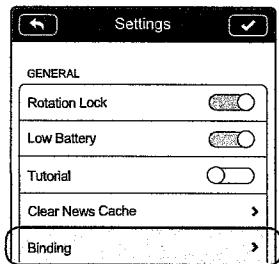
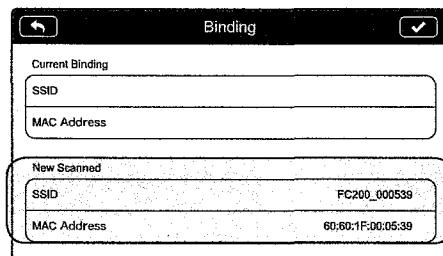
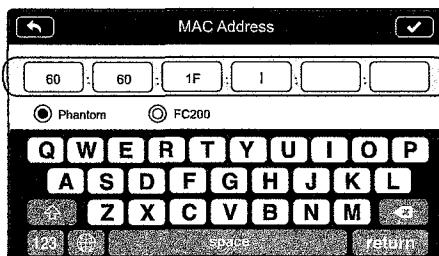

Figure 36
Figure 38
Figure 39
- (1) Power on the camera and Range Extender.
- (2) Approximately 30 seconds later, press the Binding Reset Button on the Range Extender with a pin until the SYSTEM Indicator turns off. The Range Extender will then restart automatically.
- (3) Approximately 30 seconds later, the SYSTEM Indicator will start to blink green, indicating that the Range Extender is ready for binding.
- (4) Enable Wi-Fi on your mobile device then select "Phantom_XXXXXX" the (SSID of your Range Extender) from the Wi-Fi network list.
- (5) Run the DJI VISION App then tap -> Settings -> General -> Binding (Figure 36). Select 'Scan QR Code' to scan the camera QR code on the bottom of aircraft (Figure 37). Get the camera SSID (E.g. FC200_xxxxx) and the MAC address (Figure 38). You can also skip the scan and enter the camera MAC address directly (Figure 39). The MAC address can be found on the camera label.
- (6) Tap the tick in the top right corner. The Range Extender should automatically restart. Binding is now complete.